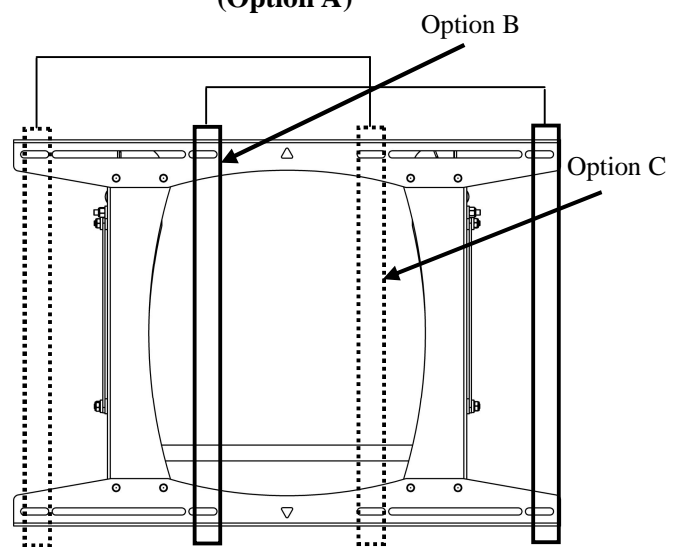

Figure 6. Mounting Holes – 16" Apart on Center (Options B and C)
- **Option B.** Install four 5/16" x 2-1/2" lag bolts (20) and four 5/16" washers (30) (two top and two bottom) into the mounting holes that are *right of center* on dual wood studs 16" apart as shown in Figure 6.
- **Option C.** Install four 5/16" x 2-1/2" lag bolts (20) and four 5/16" washers (30) (two top and two bottom) into the mounting holes that are *left of center* on dual wood studs 16" apart on center as shown in Figure 6.